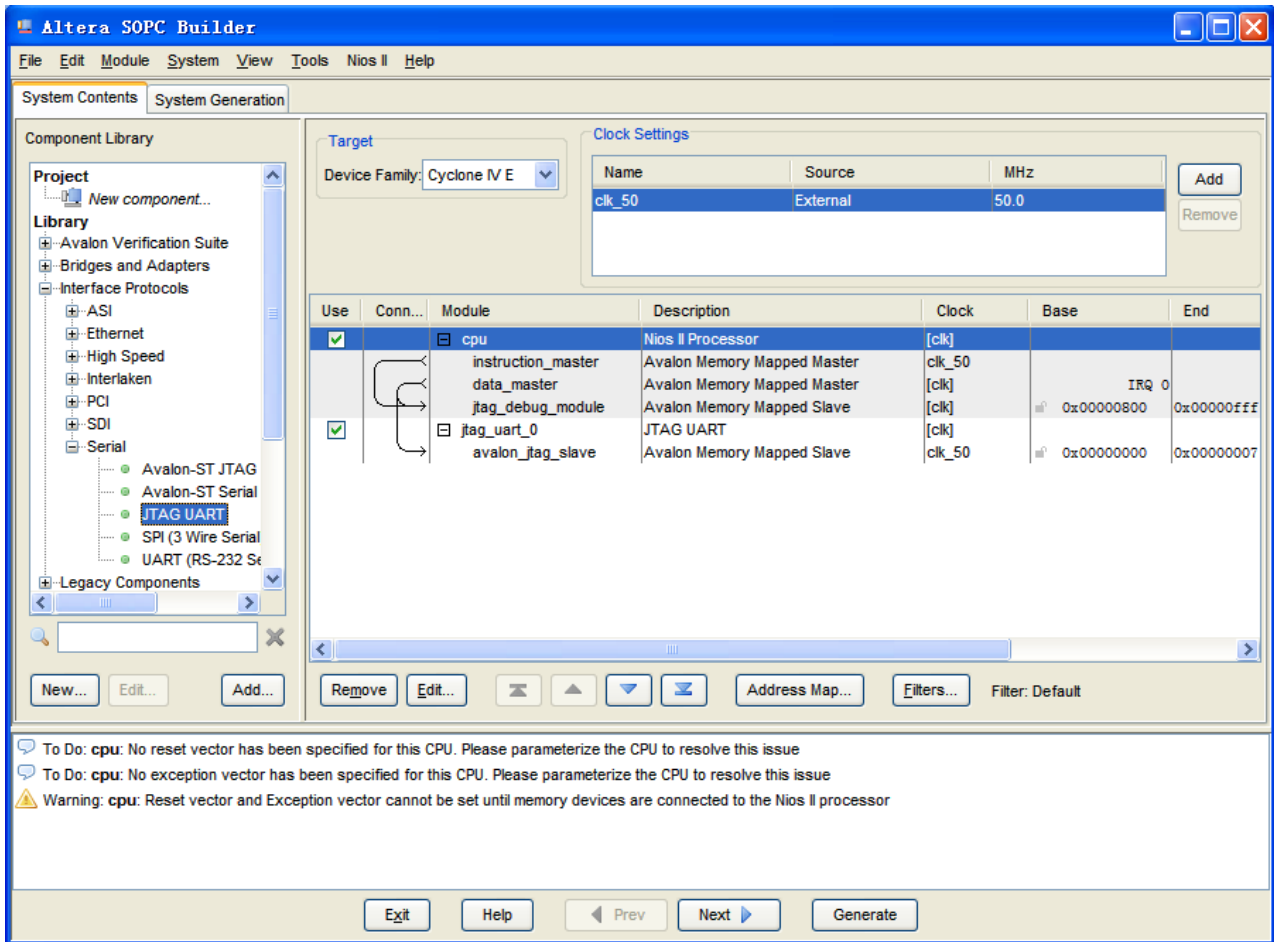

Figure 7-21 JTAG UART
12. Click **Finish** to close the wizard and return to the window as shown in **Figure 7-21**.